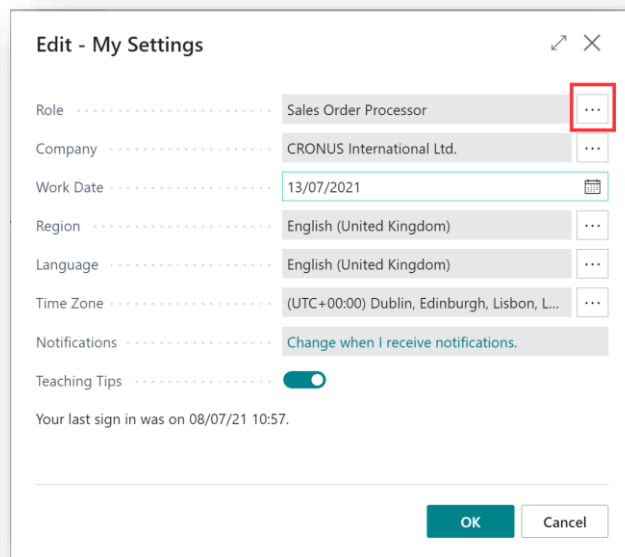

Figure 4-8
2. In the **My Settings** page, on the **Role** field, select the **AssistEdit** icon (Figure 4-8).